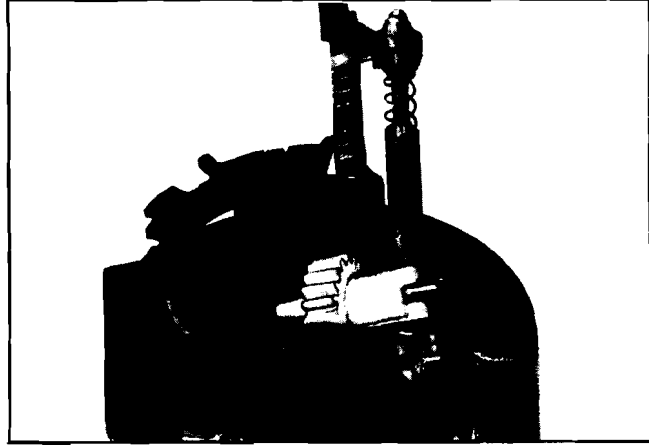

Fig. 9-19 Removing or Installing Rack and Lock Bolt
12. Remove the rack and lock bolt (Fig. 9-19).
the bottom with the teeth up (toward sector) and toward the centerline of the column. Block tooth on rack to engage block tooth on sector (Fig. 9-19).